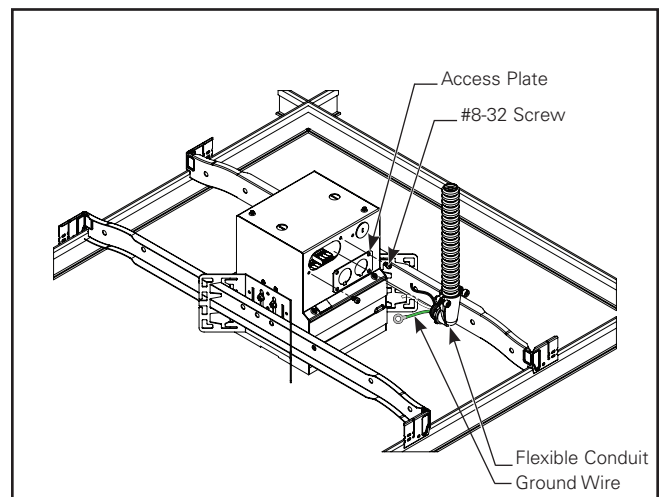

Figure 1.5.
3. Remove access plate from fixture and open one of 1/2" knockout. (Figure 1.5)